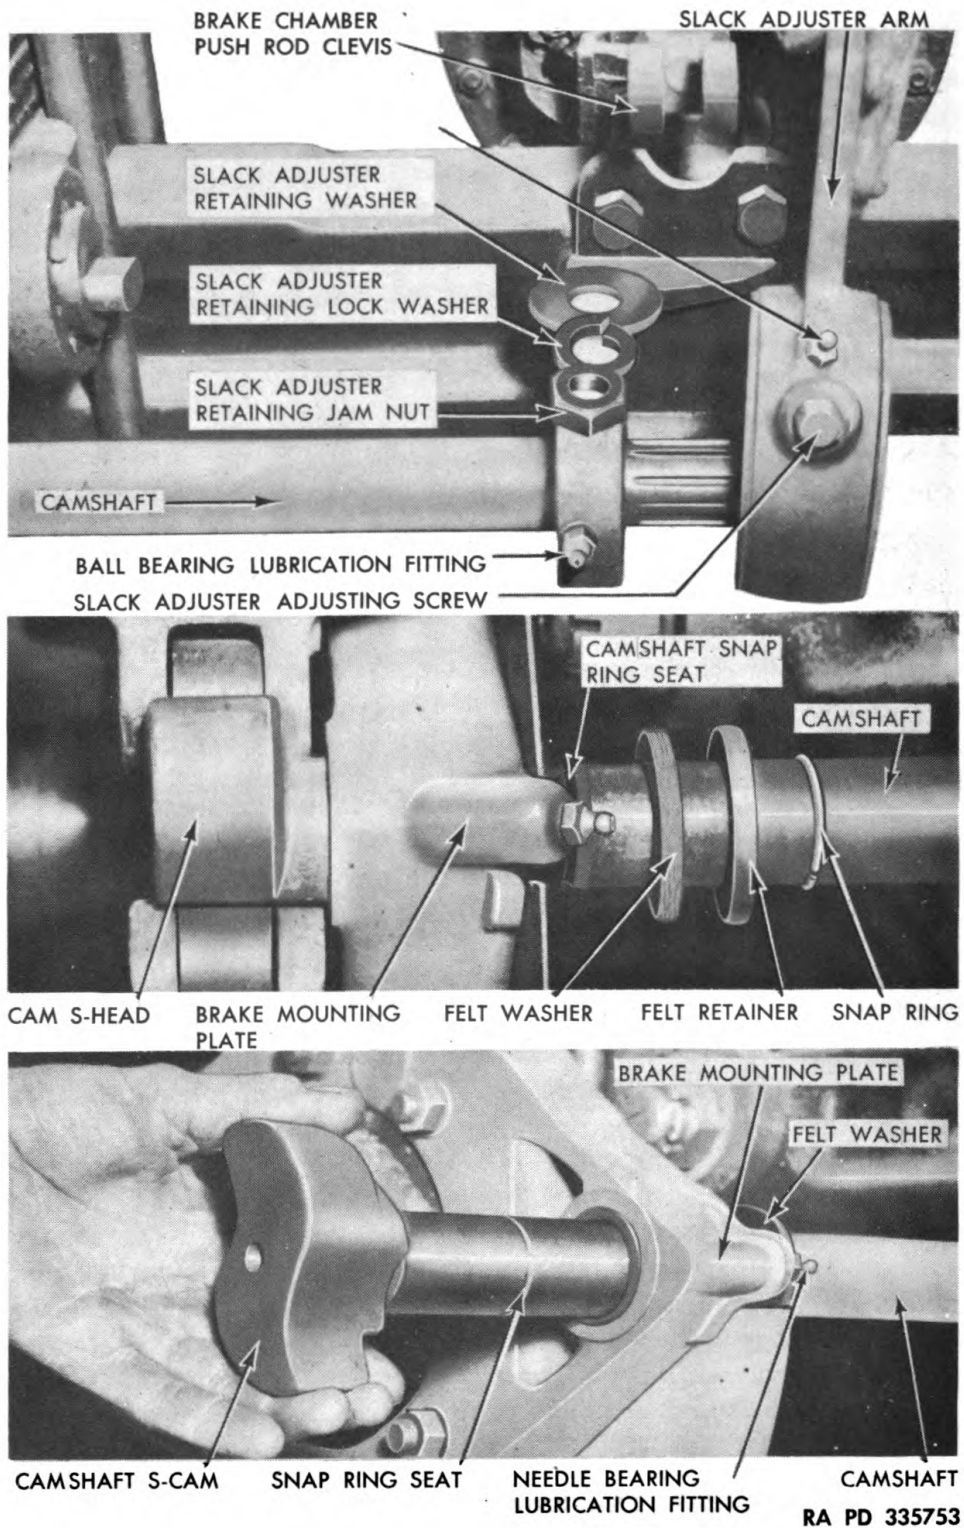

Figure 25—Removing Camshaft
(2) **REMOVE CAMSHAFT.** Remove the nut and lock washer from the slack adjuster end of the camshaft (A, fig. 25). Remove the brake chamber push rod from the slack adjuster arm. Tap slack adjuster off the cam spline, using wood buffer block between the slack adjuster and hammer if the slack adjuster assembly does not slide off freely. A snap ring is located on the cam arm just outside the brake mounting plate (B, fig. 25). Remove snap ring from the seat in camshaft arm, and work toward the splined end of arm. It is not necessary to move the felt retainer and felt washer. These two units will remain against the needle bearing as the camshaft is drawn through the needle bearings in the brake backing plate. The brake shoe rollers will drag upon the camshaft as it is withdrawn, unless the shoes are blocked apart with a block of suitable length. **CAUTION:** Use extreme care in removing the camshaft so that the needle bearings in the brake mounting plate are not damaged. Keep camshaft in line with its normal working position as it is withdrawn.